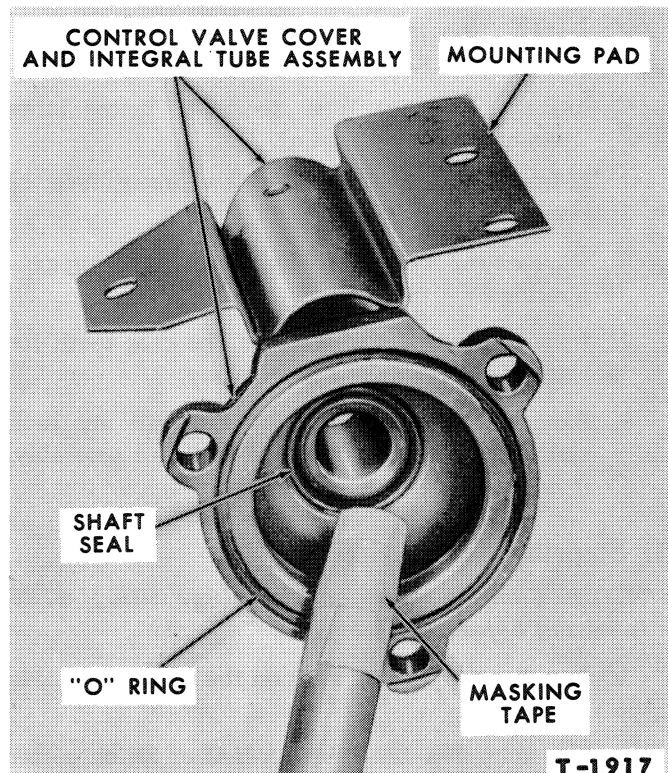
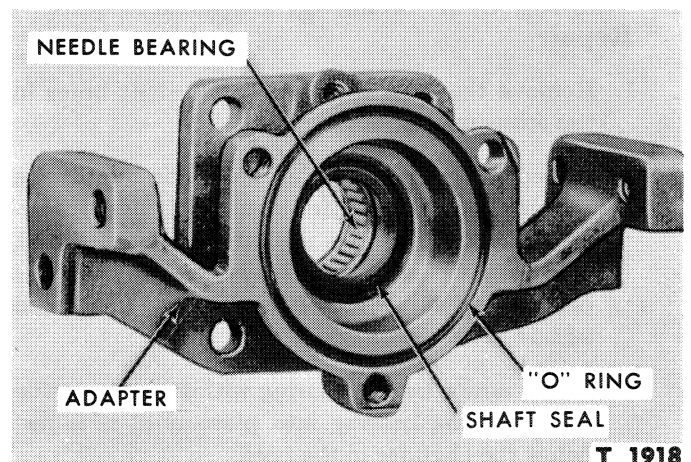

Figure 21—Installing the Control Valve Cover and Integral Tube
Figure 22—Adapter Assembly—Showing Bearing and Seal
1. Inspect the seal in the bore of the control valve cover and integral tube assembly, Figure 21, and in the bore of the adapter assembly, Figure 22, for damage or hardening of the seal lip. Replace if necessary. Coat the new seal with Lubriplate
3. Inspect the needle bearing in the bottom of the adapter, Figure 22. The bearing rollers should be smooth, highly polished, and should turn freely. If it is necessary to replace a bearing, use Pilot Bearing Puller 956-2. The new bearing, with the trademark side out, should be pressed in just far enough for the bearing face to clear the casting surface.
9. Tape the splined end of the steering shaft, Figure 21, and sharp shoulder to prevent damage to the control valve cover seal during installation of cover.